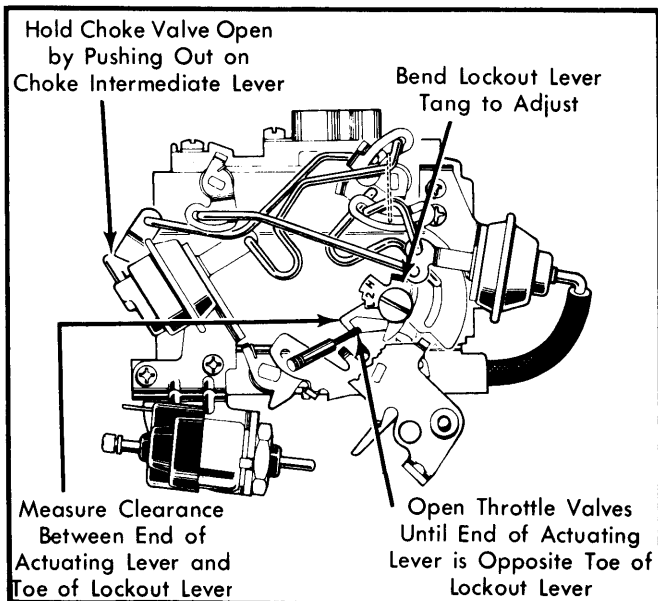

Fig. 10 Adjusting Secondary Throttle Lockout
- 1) Hold choke valve wide open by pushing in on choke intermediate lever. See Fig. 10.